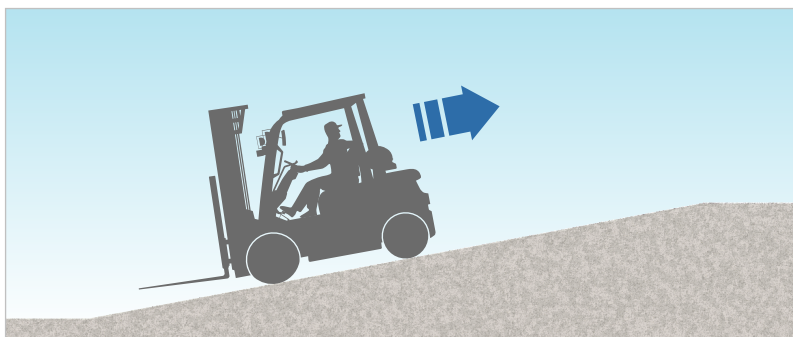

Figure 5.2. When traveling uphill without a load, drive in reverse and look in the direction of travel.
- When traveling uphill, drive in reverse and look in the direction of travel (Figure 5.2).